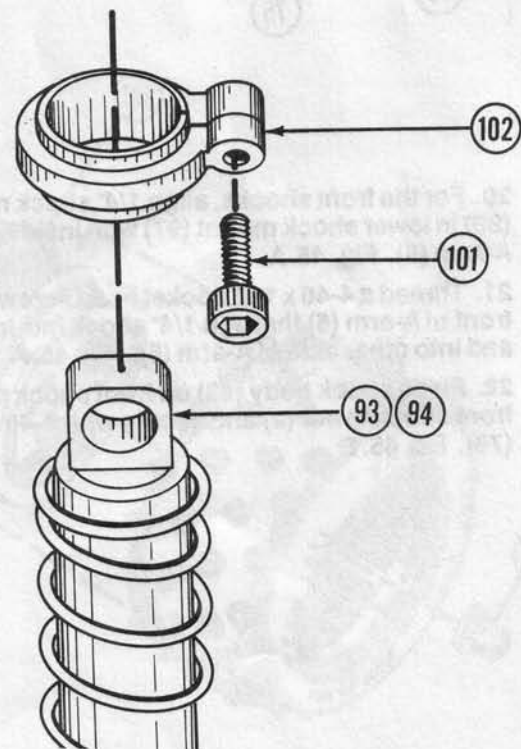

FIG. 43
14. Insert 4-40 x 3/8" socket head screw (101) into the larger clamp hole of the shock collar (102) and thread into small hole. Fig. 43.
15. With the collar (102) loose, slide it down over the top of the shock body (93) (94) and tighten. Fig. 43.